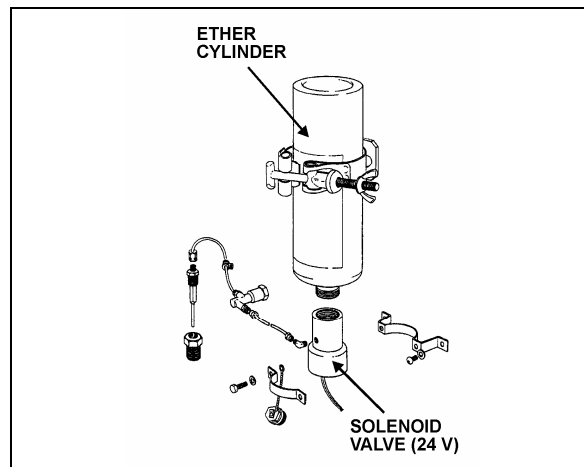

FIGURE 3: COLD STARTING AID
1. Check cylinder for hand tightness and fuel supply (Fig. 3). Empty cylinder weight is approximately 17 oz (480 g); full cylinder weight is approximately 35 oz (990 g). If cylinder is empty, replace it. Before replacing cylinder, install new valve gasket in solenoid valve.